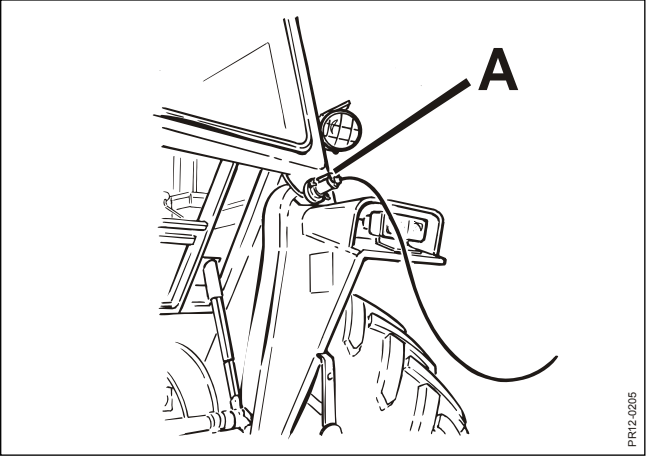

Fig. 2-5
- Fig. 2-5** The 7-pole plug **A** is mounted at the rear of the tractor with the supplied wing nuts. It is now easy to dismount the electric equipment if you are not going to use it for a considerable period of time. The equipment must be kept in a dry place.